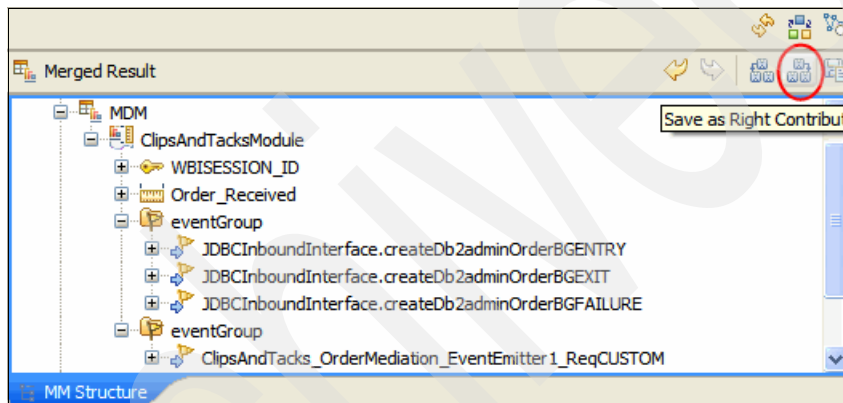

Figure 6-103 Clicking the Save as Right Contributor icon
5. In the Merged Result panel (Figure 6-103), click the **Save as Right Contributor** icon.